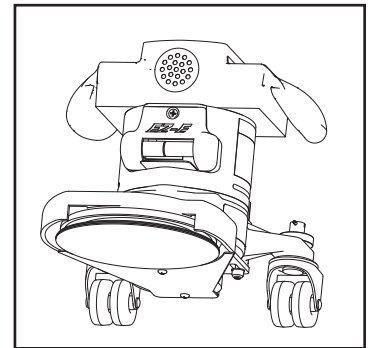

Figure 5
3. With the machine in the reclined position firmly grasp both handles and flip the control switch to the "ON" position. (Figure 5.)